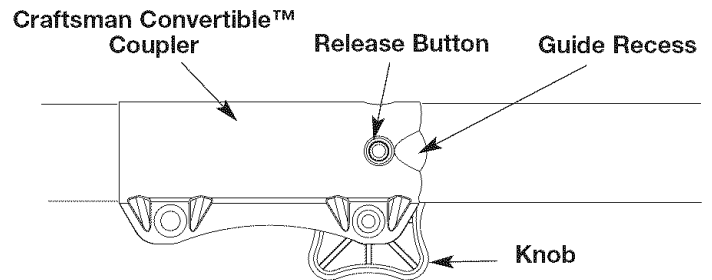

Fig. 3
**NOTE:** Aligning the release button with the guide recess will help installation (Fig. 3).